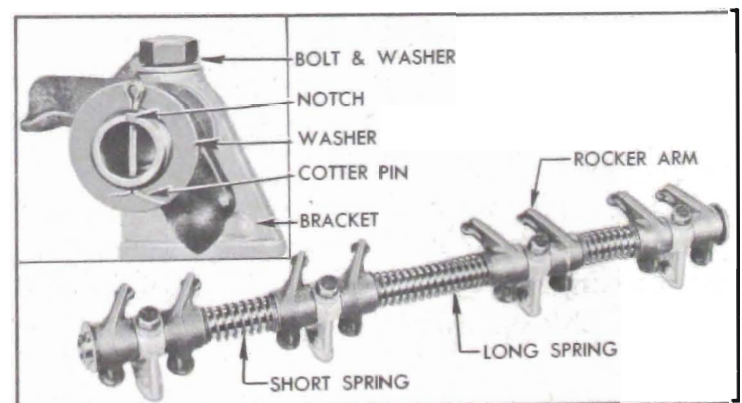

Figure 2-18—Rocker Arm and Shaft Assembly
3. Assemble springs, rocker arms and brackets on shaft as shown in figure 2-18. Note
(4) Install locking plates with exhaust manifold bolts, tighten bolts only to 10-15 ft. lbs. torque, then bend one tab of plate against a flat on each bolt head.
(5) When rocker arm and shaft assembly is installed, make certain that the notch in one end of shaft is upward in line with bracket bolt heads. See figure 2-18.
(6) Install intake manifold gaskets so pointed end of each gasket is "IN" toward center of engine.
(7) After installation is completed and engine has been warmed up to operating temperature, recheck cylinder head bolts for 65-75 ft. lbs. torque.